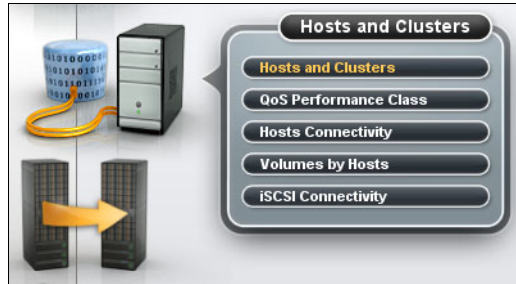

Figure 8-5 Hosts and Clusters in the XIV GUI
1. In the XIV Storage System GUI, click **Hosts and Clusters** → **Hosts and Clusters** as shown in Figure 8-5.